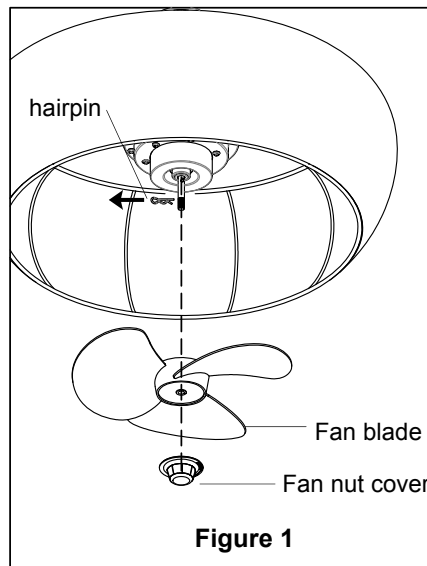

Figure 1
- ☐ 1. pull out the hairpin. (Figure 1)